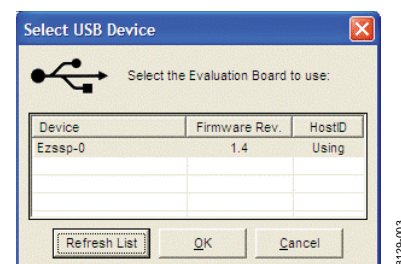

Figure 3. Select USB Device Window
6. If the evaluation board was not automatically detected when it was connected, choose **Select Evaluation Board** from the **I/O** menu, and then select EZSSP-0, EZSSP-1, or EZSSP-2 (see Figure 3).